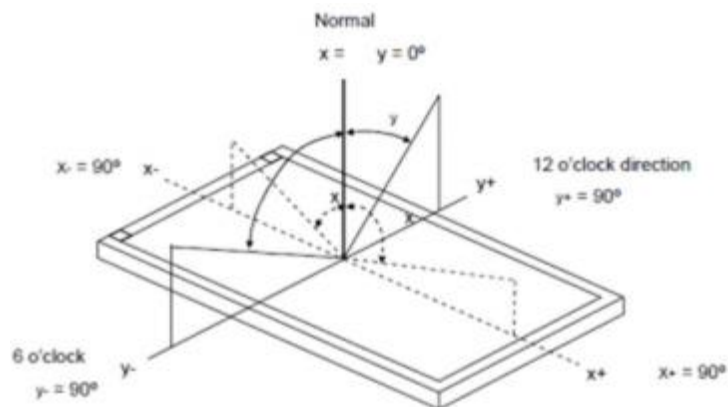

Figure 6. Definition of Viewing angle
**(3) Definition of Viewing angle:**
As Note (1) the static contrast ratio definition, the viewing angles are defined at the angle that the contrast ratio is larger than 10 at four directions relative to the perpendicular direction of the pospur's module (two vertical angles: up  $\theta_{y+}$  and down  $\theta_{y-}$ ; and two horizontal angles: right  $\theta_{x+}$  and left  $\theta_{x-}$ ). The standard setup of measurement is shown in Figure 6